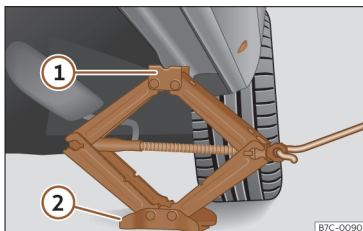

Fig. 244 Crossbar: mounting the jack on the vehicle.
- Turn the jack crank handle, located below the crossbar support point, to raise it until the tab ① >>> **Fig. 244** is below the housing that is provided.
- Align the jack so that the tab ① “grips” onto the housing provided on the cross member and the mobile base ② is resting on the ground. The base plate ② should fall vertically with respect to the support point ①.